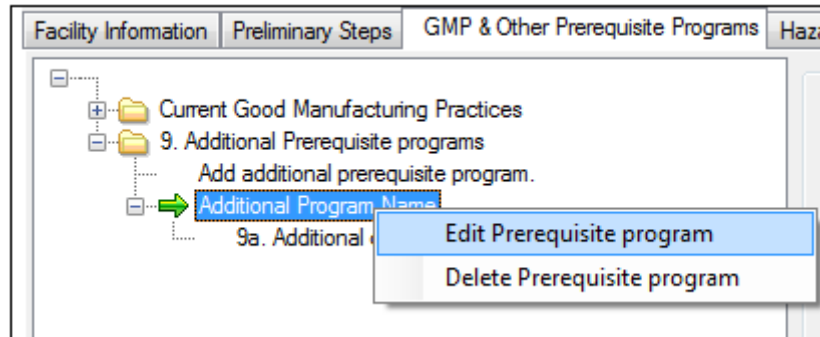
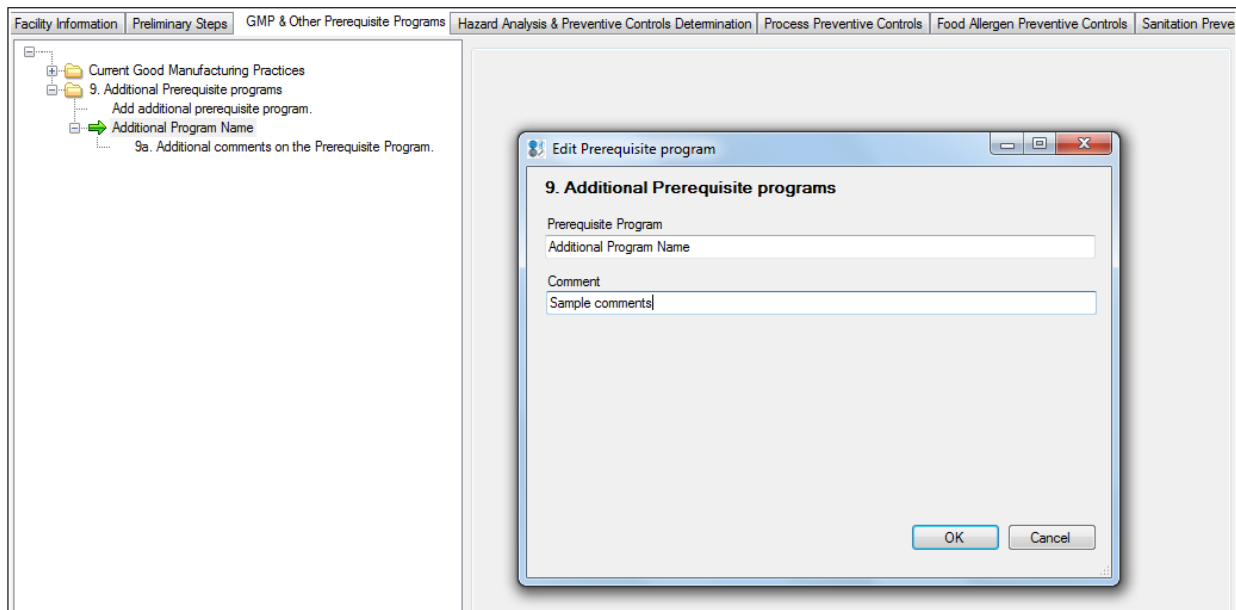

Figure 33: Edit Additional Prerequisite Programs
Figure 34: Edit Additional Prerequisite Programs Details
- Delete** — To delete an added [or existing] additional prerequisite program (Figure 33), select the prerequisite program folder and then right click the appropriate "Prerequisite Program" folder. Select "Delete Prerequisite Program" and then "OK" to remove the program (Figure 34).